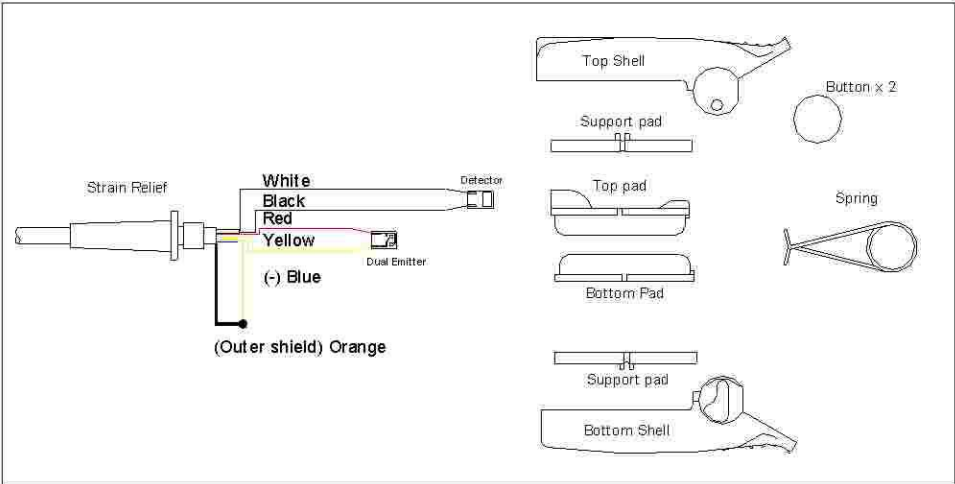

Fig 2.3
- 7.     Solder wires to the detector and emitter as shown in fig 2.3. And the orange and outer shield together and cover naked wire in heat shrink.